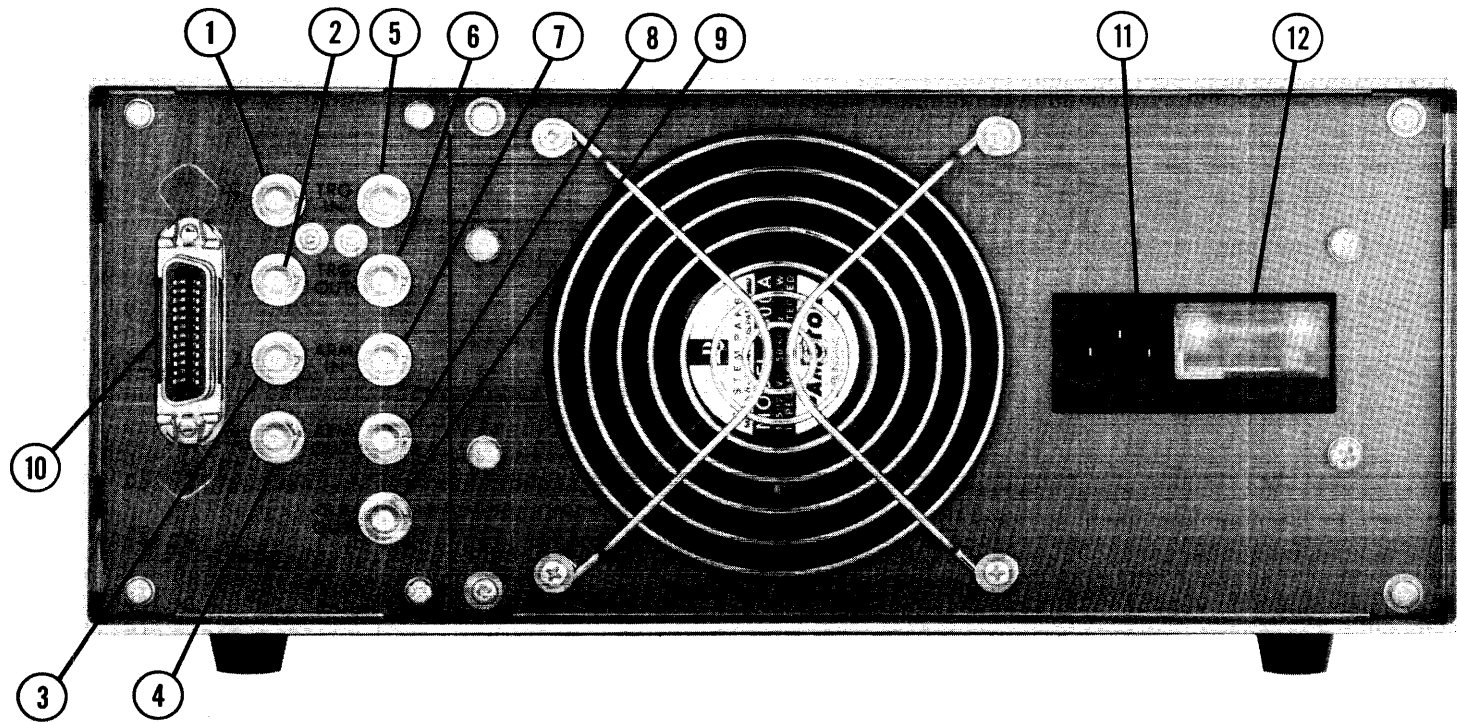

Figure 4.4 851-D Rear Panel
4.3 Rear Panel Connectors (See Figure 4.4)